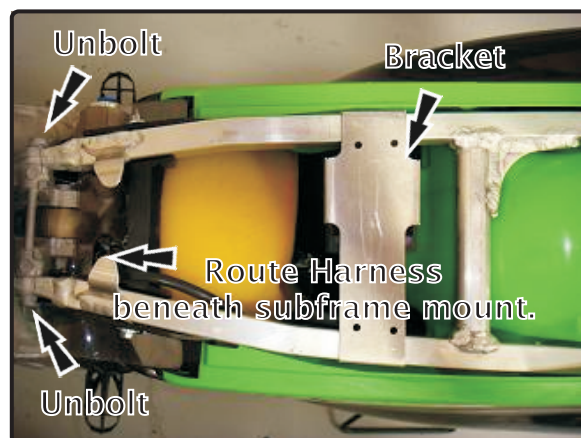

Fig. 2
- 4 Unbolt top subframe bolts and loosen bottom subframe bolts as shown in Fig. 2. Route main connector beneath frame, through the clear shroud, and into airbox as shown. Reinstall subframe bolts and tighten as per service manual.
- 9 Route main harness near air filter as shown in Fig 2.